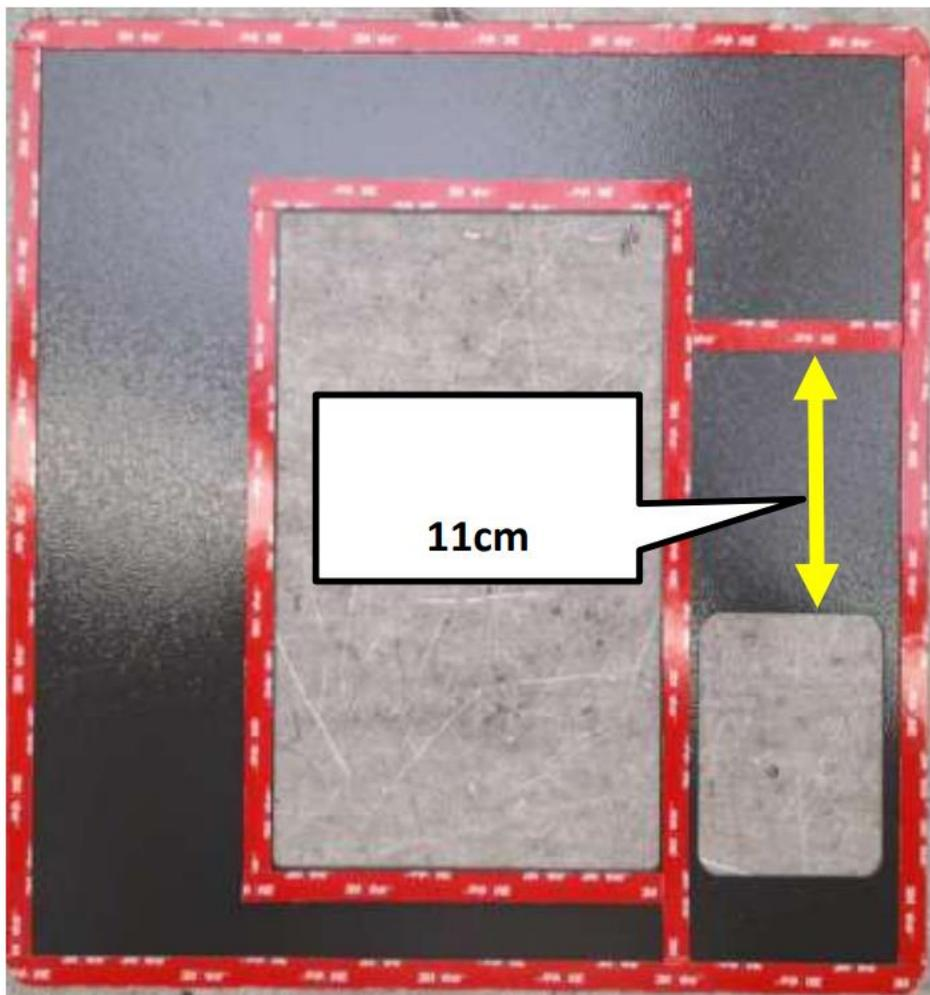

Figure 3: *Display cover in Payter version with adhesive tape attached.*
- Step 1 Prepare new display cover (3486840700 PLATE FRONT PAY SGCC 400\*430\*0.75 PAINT). Display cover should be delivered with 3M adhesive tape attached Figure 3.